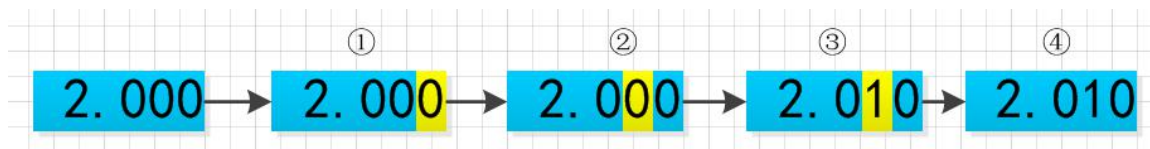

Figure 1.4.1.
1. As shown in figure 1.4.1, ①Press **【Enter】** to enter the edit mode. ② In edit mode, press the arrow keys **【◀】**、**【▶】** to select the corresponding number of digits. ③Turn the knob to adjust the value. ④ Press **【Enter】** or **【Esc】** to exit the edit mode. Numeric parameter setting is then completed.